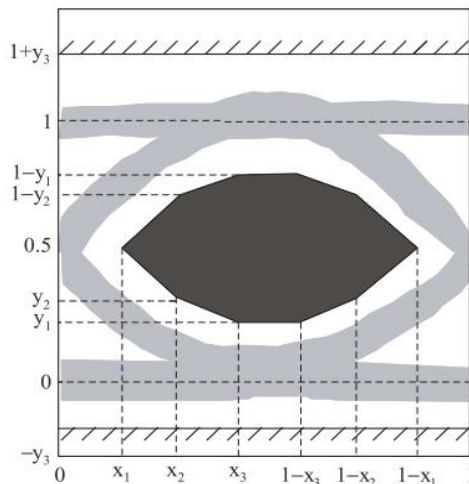

Figure 1-Transmission eye mask definition
**Note1:** Please refer to Figure 1